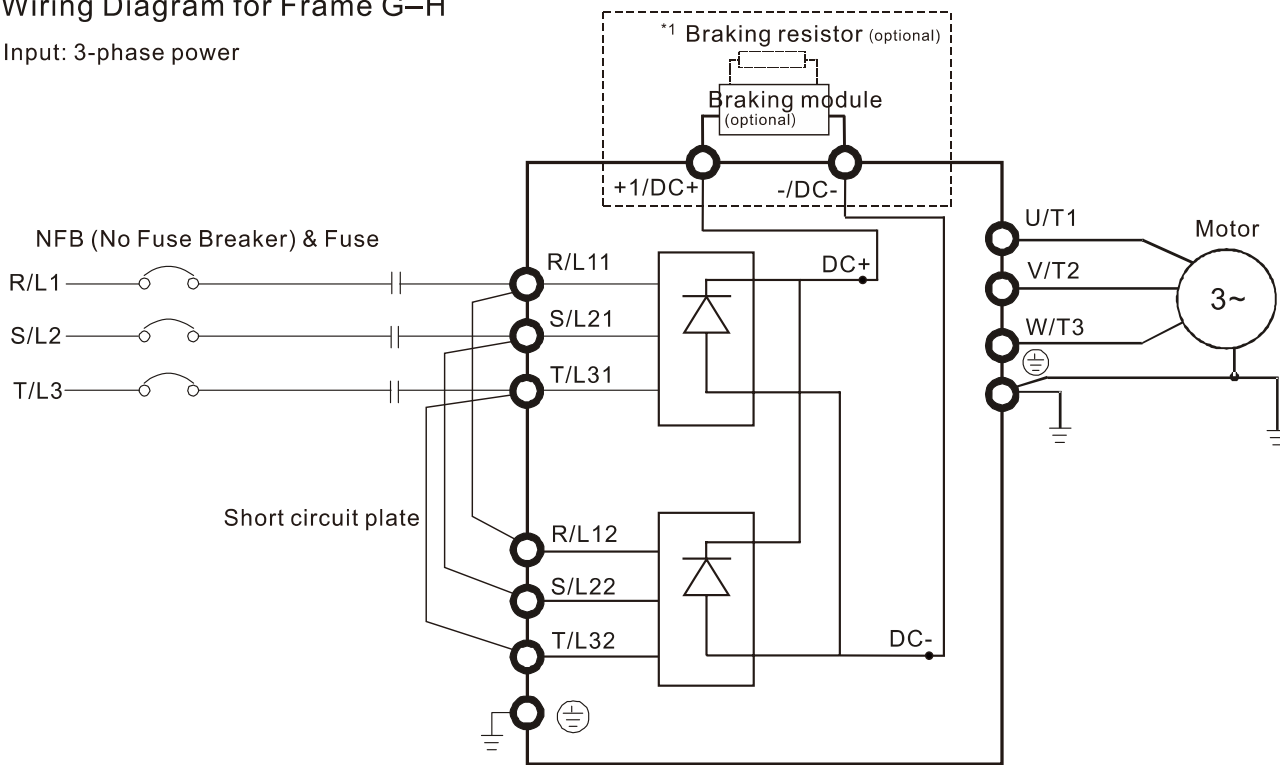

Figure 5-7
- After crimping the wire to the ring lug (must be UL approved), UL and CSA approved recognized component (YDPU2), install heat shrink tube rated at a minimum of 600 V_{AC} insulation over the live part. Refer to Figure 5-7.